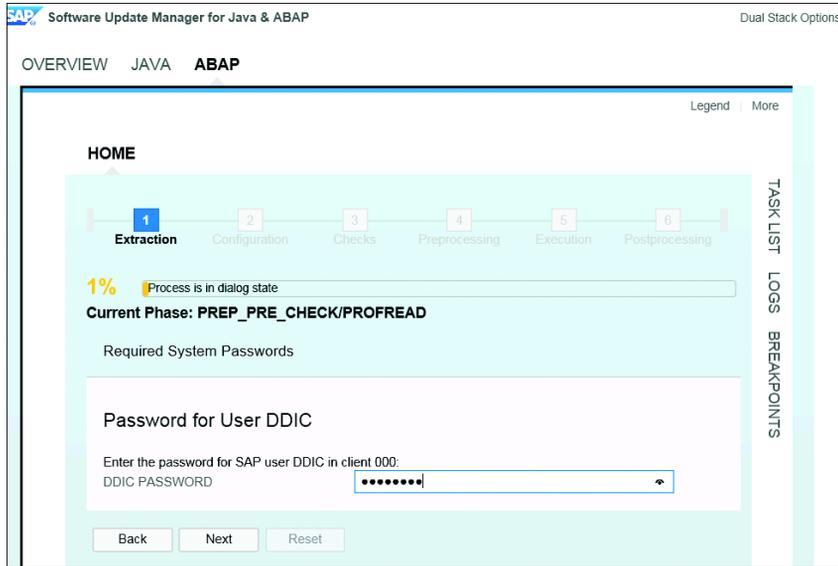

Figure 42 Enter DDIC Credentials for Client 000
7. Enter the credentials and select NEXT (see Figure 42).